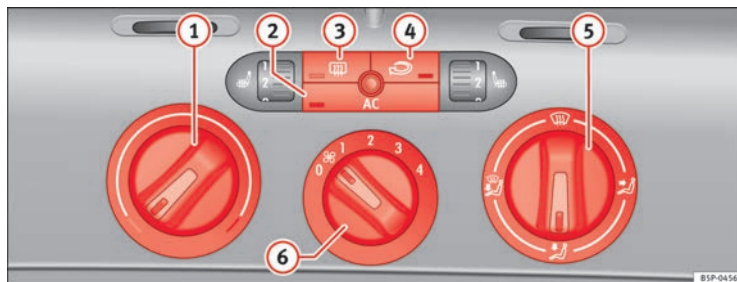

Fig. 125 On the dash panel: Climatic controls
- Use the knobs ⇒ Fig. 125 ① and ⑤ and control ⑥ to set the temperature, air distribution and blower speed.
- To switch a function on or off, press the appropriate button ②, ③ or ④. When the function is activated, the display window in the lower corner of the button is lit.
- ① Temperature selector ⇒ page 160
- ② AC button – Heating, ventilation and air-conditioning system on/off ⇒ page 160
- ③ button – Heated rear window The heating will be switched off automatically approximately 20 minutes after switching on. It can also be switched off beforehand by pushing the button.
- ④ Button – Air recirculation mode ⇒ page 161
- ⑤ Air distribution control ⇒ page 160
- ⑥ Blower switch. There are four speed settings for the air flow. The air flow should always be set at the lowest speed when driving slowly.
- Switch on the air conditioner using the button ⇒ Fig. 125 .